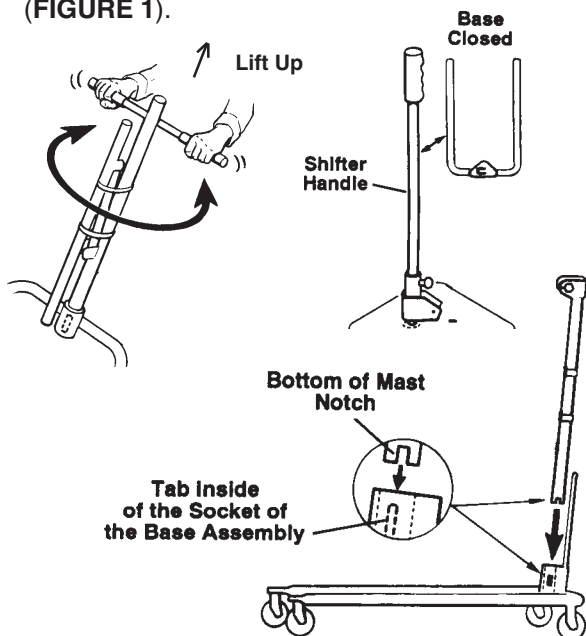

FIGURE 1 - REMOVING MAST AND CLOSING LEGS
LIFT DISASSEMBLY (FIGURES 1 and 2)
1. Turn and lift up the mast assembly to unlock it from the base (FIGURE 1).
3. Using the shifter handle, close the legs of the base (FIGURE 1).
REASSEMBLY (FIGURES 1 and 2)